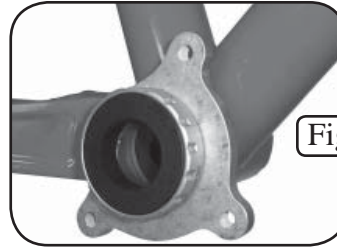

Fig 1a
3) Fit up the ISCG adapter plate to your frame. For a normal installation, the counter bored side cups over the bottom bracket shell. For spindle lengths of 125 mm and over, OR on frames that were not designed to accept a chain guide, you can mount the ISCG adapter plate with the cupped side facing away from the bottom bracket shell. Use your flanged fixed-cup type bottom bracket to sandwich the ISCG adapter plate against the flat face of the bottom bracket shell. The upper hole on the plate should be about at the 1 o'clock position. See Fig 1a and 1b for approximate ISCG adapter plate orientation.